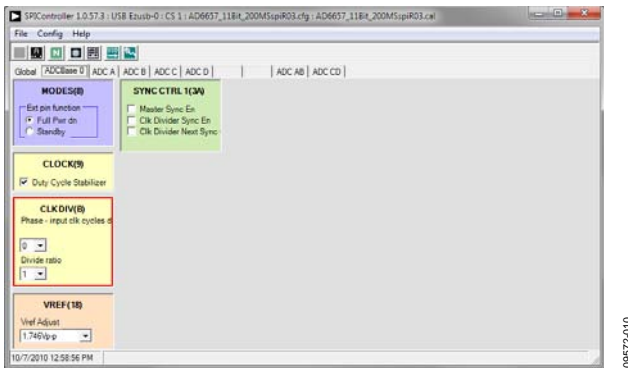
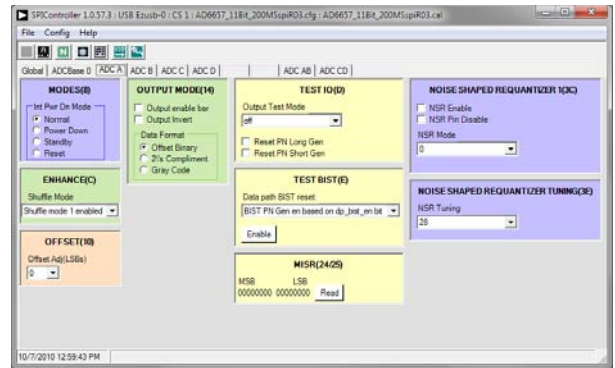

Figure 10. SPIController, CLK DIV(B) Box
Figure 11. SPIController, Example ADC A Page
- In the **ADCBase 0** tab of the **SPIController** window, find the **CLK DIV(B)** box (see Figure 10). If using the clock divider, use the drop-down box to select the correct clock divide ratio, if necessary. See the appropriate part data sheet; the AN-878 Application Note, *High Speed ADC SPI Control Software*; and the AN-877 Application Note, *Interfacing to High Speed ADCs via SPI*, for additional information.
- Note that other settings can be changed on the **ADCBase 0** page (see Figure 10) and the **ADC A** and **ADC B** pages (see Figure 11) to set up the part in the desired mode (**ADC C** and **ADC D** can also be changed if using the AD6657). The **ADCBase 0** page settings affect the entire part, whereas the settings on the **ADC A** and **ADC B** (as well as **ADC C** and **ADC D**) pages affect the selected channel only. See the appropriate part data sheet; the AN-878 Application Note, *High Speed ADC SPI Control Software*; and the AN-877 Application Note, *Interfacing to High Speed ADCs via SPI*, for additional information on the available settings.